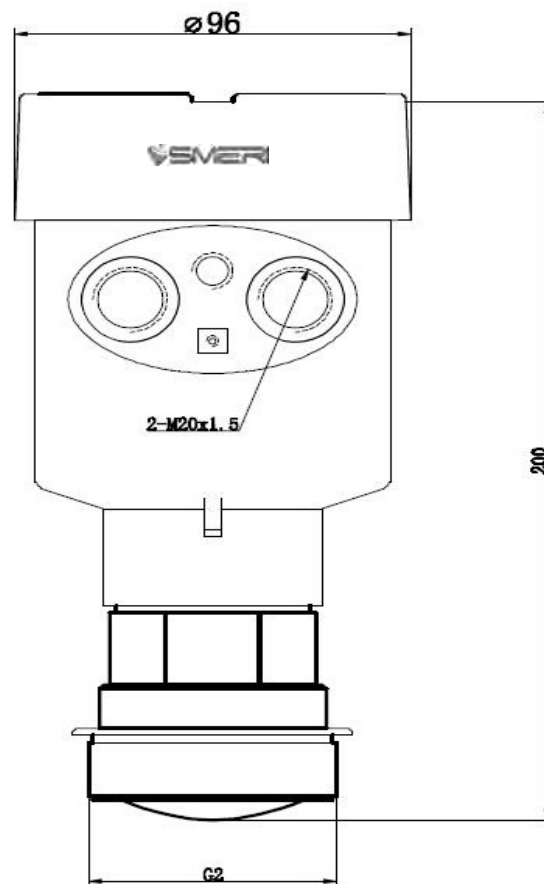

Figure 1 Radar shape structure (mm)
- Radar level transmitter shape structure figure is shown as in Figure 1.